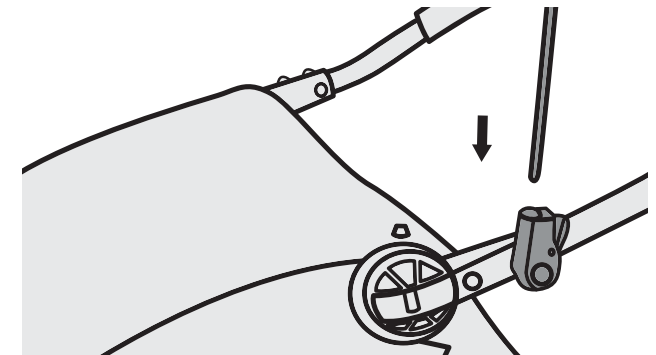

Figure 21
2. Depress the yellow button and slide the flag pole into hole on flag holder. To release, push button and lift flag pole out (Figure 21).